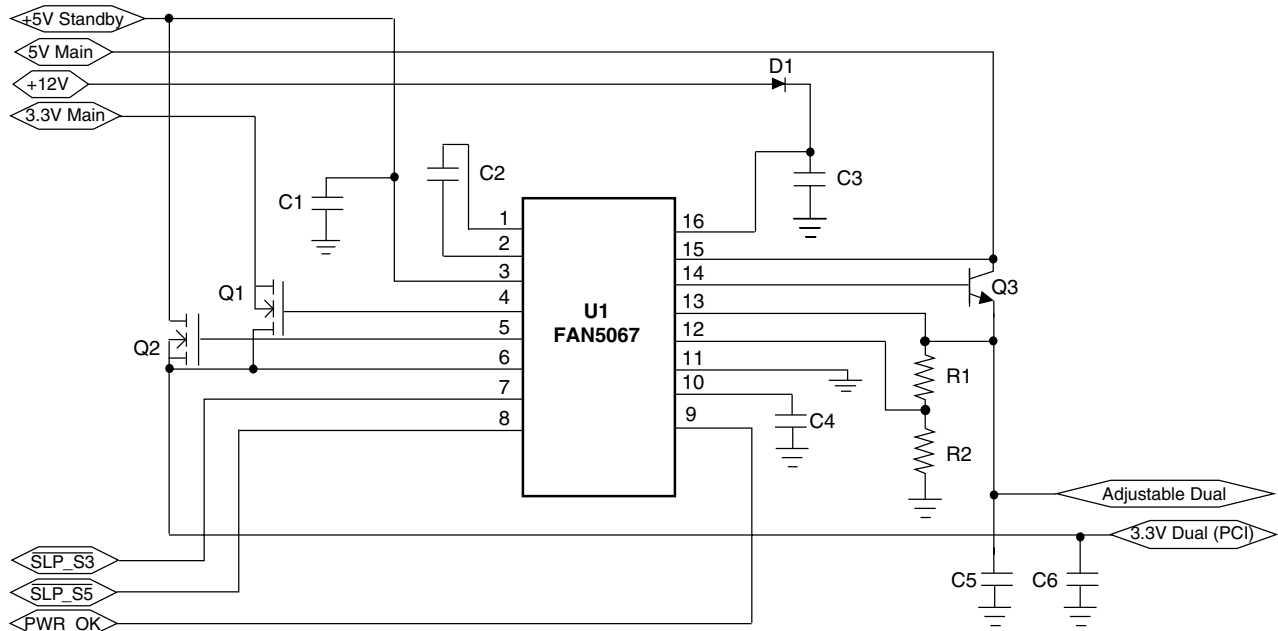
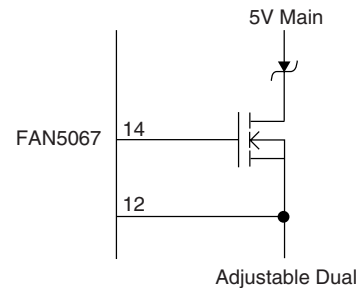

Figure 4. ACPI Selector
Figure 9. Adjustable Dual with MOSFET
($V_{+5VSTBY} = V_{+5VMAIN} = 5V$, $V_{+3.3V} = 3.3V$, $V_{+12V} = 12V$ and $T_A = +25^{\circ}C$ using circuit in Figure 4, unless otherwise noted.)
3.3V dual can be generated by two MOSFETs, one from +3.3V main, the other from +5V standby, as shown in Figure 4. When main power is present, the MOSFET Q1 is turned on as a switch, so that input and output are connected together. When main power is absent, the MOSFET Q2 is controlled by the FAN5067 as a linear regulator, generating a regulated 3.3V from +5V standby. The MOSFET Q1 must be connected as shown in the figures, to avoid back-feed.
Adjustable dual is generated by one external NPN bipolar acting as a linear regulator from +5V main, and one linear regulator internal to the FAN5067 from +5V standby, as shown in Figure 4, and in the block diagram on the front page. When main power is present, the NPN Q3 linear regulates, and when main power is absent, the internal linear regulator is on. Q3 cannot be substituted with a MOSFET. If used in one direction, the MOSFET’s body diode would permit back-feed; if used in the other direction, it would short-circuit the linear regulator action.
The output voltage of the Adjustable Dual is set with two resistors as shown in Figure 4, according to the equation.
In main power operation, the FAN5067 is run from the +12V main supply. This supply also provides voltage to the various MOSFET gates. However, during standby, this supply is off. To provide power to the chip and the appropriate gates, the FAN5067 incorporates a free-running charge pump. As shown in Figure 4, and in the block diagram on the front page, a capacitor attached between pins 1 and 2 of the FAN5067 acts as a charge pump with internal diodes. The charge pump output is internally diode or'ed with the 12V input. The 12V input must have a series diode to prevent back-feeding the charge pump to the +12V main when in standby. The 12V input line needs a bypass capacitor for high-frequency noise rejection. If desired, the system may be operated without the 12V or the diode; however, the bypass capacitor must still be present.
Instead of the bipolar transistor shown in Figure 4 for Q3, the linear pass element for the adjustable dual, a MOSFET and schottky diode can be used as shown in Figure 9.